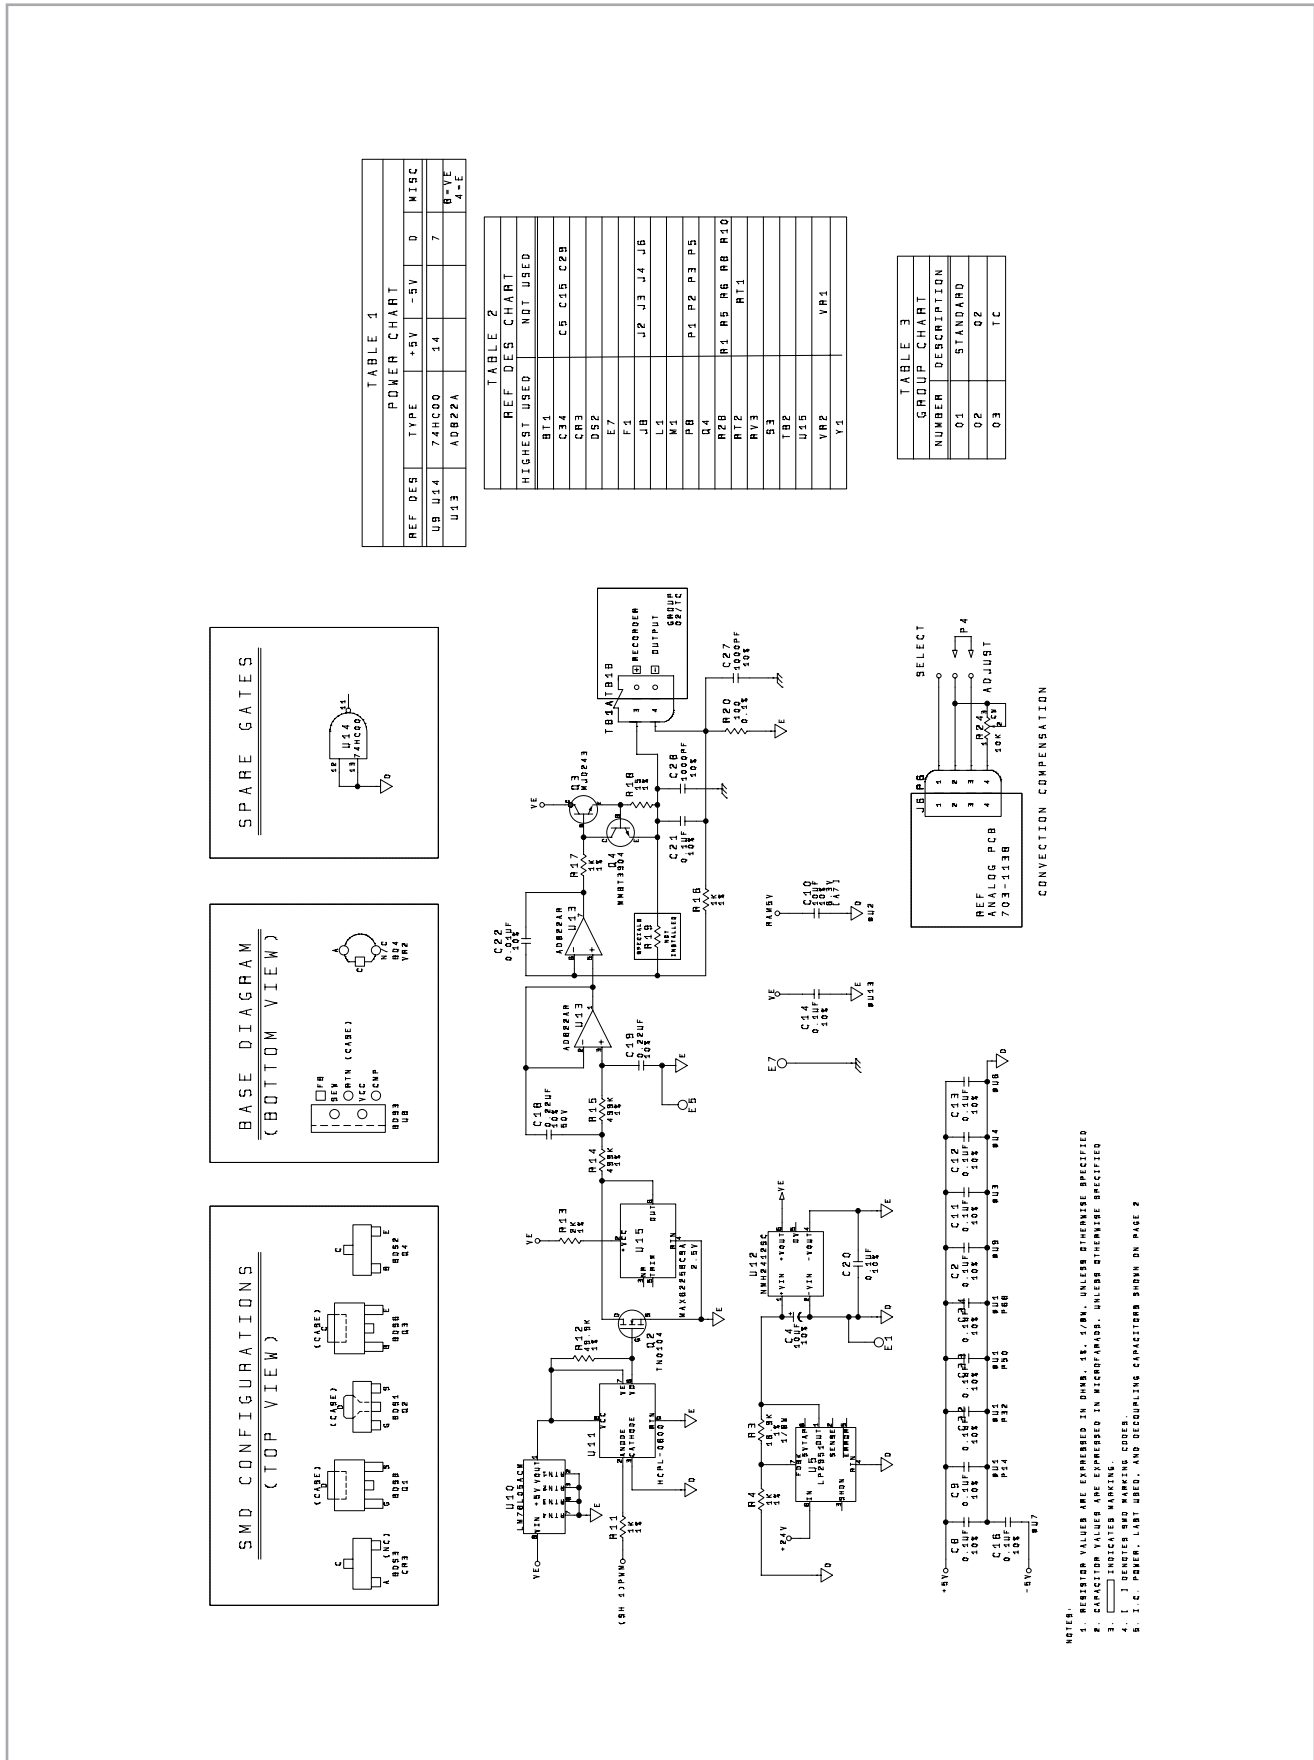

Figure 68: Digital PCB schematic (ref. dwg #700-1316, rev. H, sh. 2)
- Figure 68, "Digital PCB Schematic (ref. dwg #700-1316, rev. H, sh. 2)" on page 53